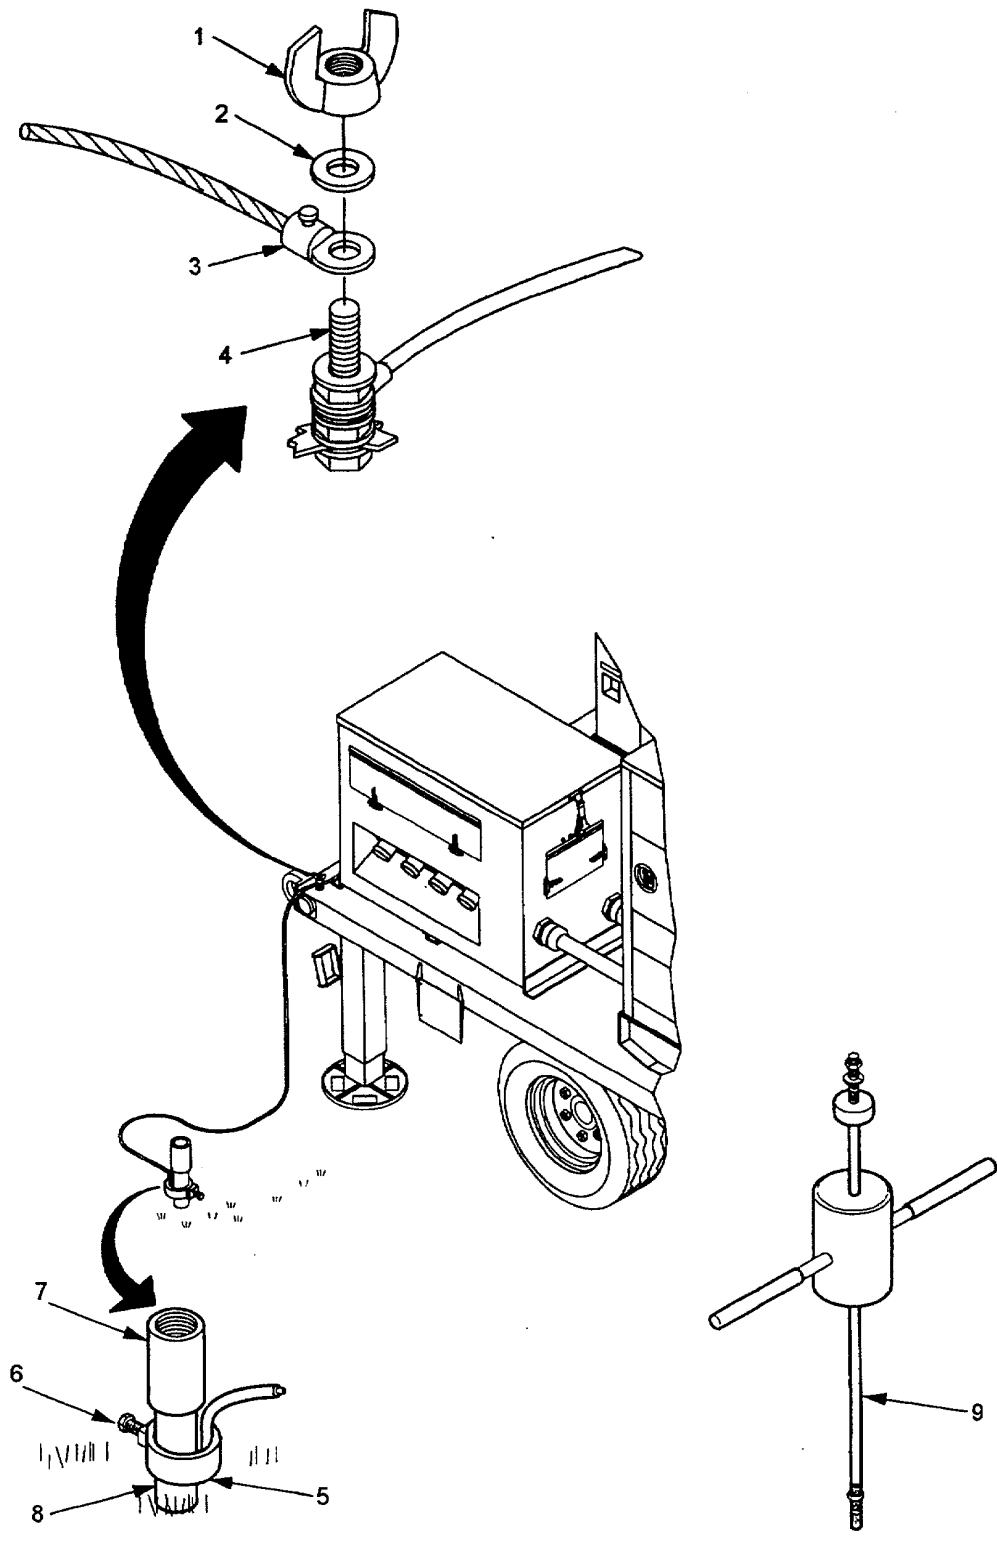

Figure 2-14. Ground Rod Removal
- a. Using slide hammer (9, figure 2-14) remove ground rod (8) as follows:
- (1) Loosen clamp screw (6) and remove ground cable.
- (2) Remove wing nut (1) , washer (2), and terminal (3) from ground stud (4). Roll up ground cable and store in accessory box.
- (3) Install washer (2) and wing nut (1) removed in step a.(2) on ground stud (4).
- (4) Remove coupler (7) and ground cable clamp (5) from ground rod section (8).
- (5) Install coupler (7) on ground rod section (8).